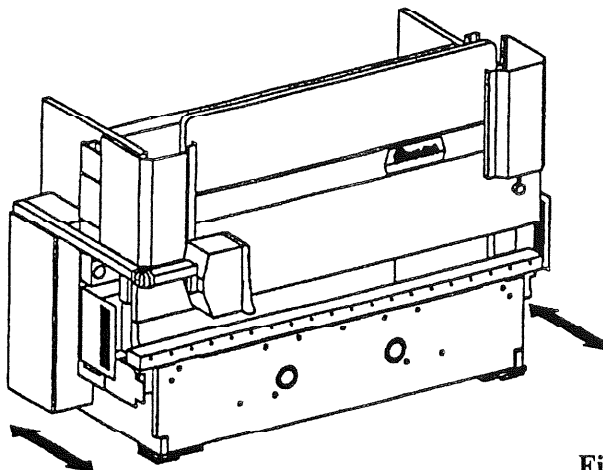

Figure 2.5
- If appropriate lifting equipment is not available, the press can be moved on skates (Figs. 2.5 and 2.6).